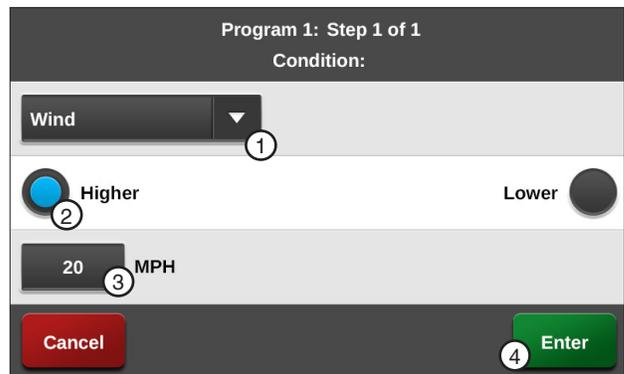

Figure 121-2 1. Wind Command 2. Higher 3. MPH 4. Enter
- a) Select the **Choose Condition** drop-down menu and choose **Wind**. Refer to Figure 121-2.
5. Finish the program by selecting one of the following. Refer to Figure 121-2.